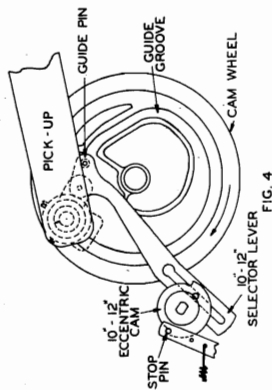

FIG. 4
8. A few more degrees of revolution cause the pick-up guide groove on top of the cam wheel. This part of the mechanism is not visible, since the cam wheel is mounted too close to the mounting plate, but Fig. 4 shows a drawing of the upper surface of the cam wheel. As the wheel revolves with the pin in the groove, it causes the pick-up to swing out beyond the edge of the record so it will be out of the way when the next record falls on the turntable.
CAUTION: Make sure the eccentric selector cam, which is located under the base, is turned all the way to its stop. (See Fig. 4.)